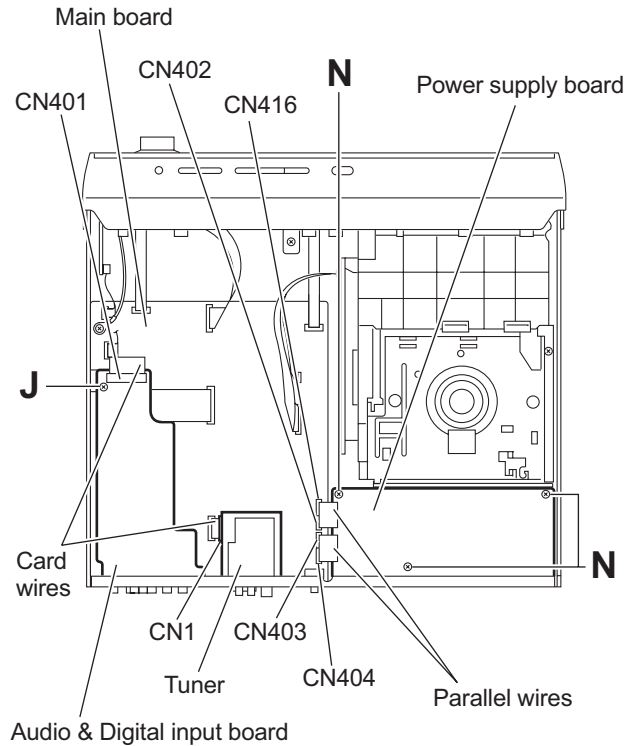

Fig.9
3.1.5 Removing the audio & digital input board (See Figs.9 and 10)
- (1) From the top side of the main body, disconnect the card wire from the connector CN401 on the audio & digital input board. (See Fig.9.)
- (2) Remove the screw **J** attaching the audio & digital input board. (See Fig.9.)
3.1.6 Removing the tuner (See Figs.9 and 10)
- (1) From the top side of the main body, disconnect the card wire from the connector CN1 on the tuner. (See Fig.9.)
3.1.7 Removing the power supply board (See Figs.9 and 10)
- (1) From the top side of the main body, disconnect the parallel wires from the connectors (CN416, CN402 to CN404) on the main board. (See Fig.9.)
- (2) Remove the three screws **N** attaching the power supply board. (See Fig.9.)